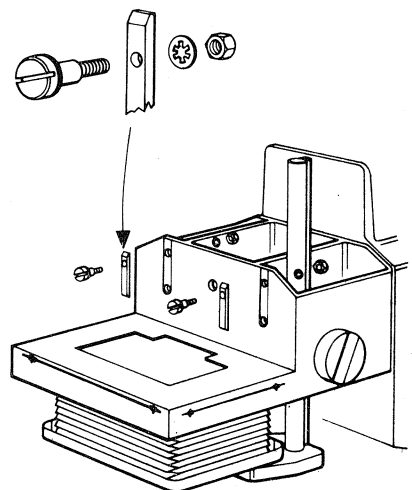

Fig 5
- 3.2.2 Fit the locating screws and nylon runners to the top two holes using the star washers and nuts as shown in Fig. 5.